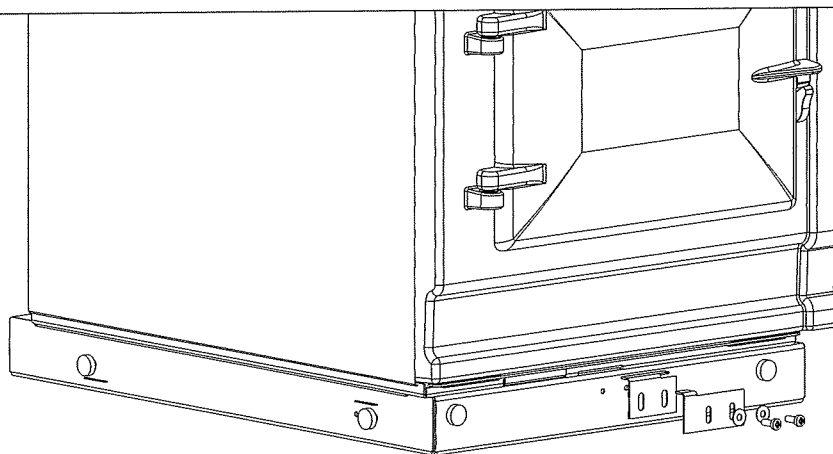

Fig. 3.1
1. Detach hotcupboard from plinth by removing two screws and tongue bracket from plinth (**Fig. 3.1**), slide hotcupboard forwards and away from rear fixing bracket (**Fig. 3.2**).